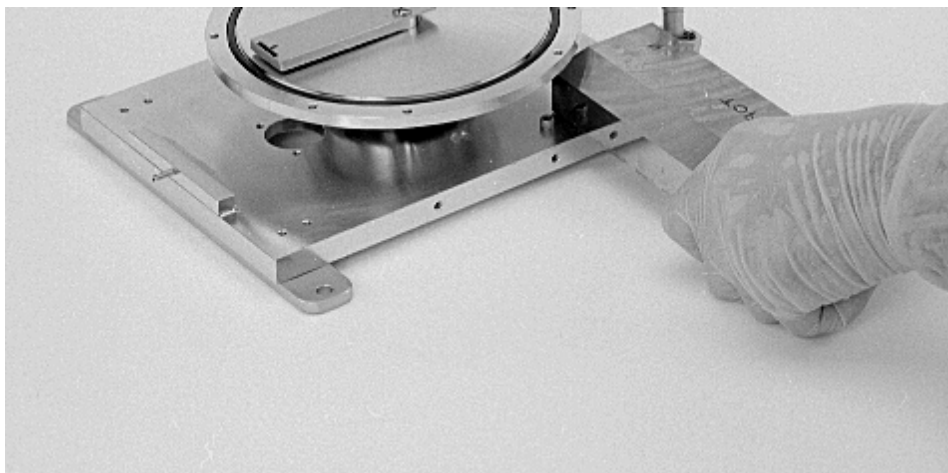

Figure 6-19. Removing the permanent magnet from the source base plate
Step 19: Carefully remove the permanent magnet from the base plate. To do so, push it to one side until it is well clear of the crucible mounting flange. Then swing it up by raising the end that now extends beyond the side of the base plate (see Figure 6-19).